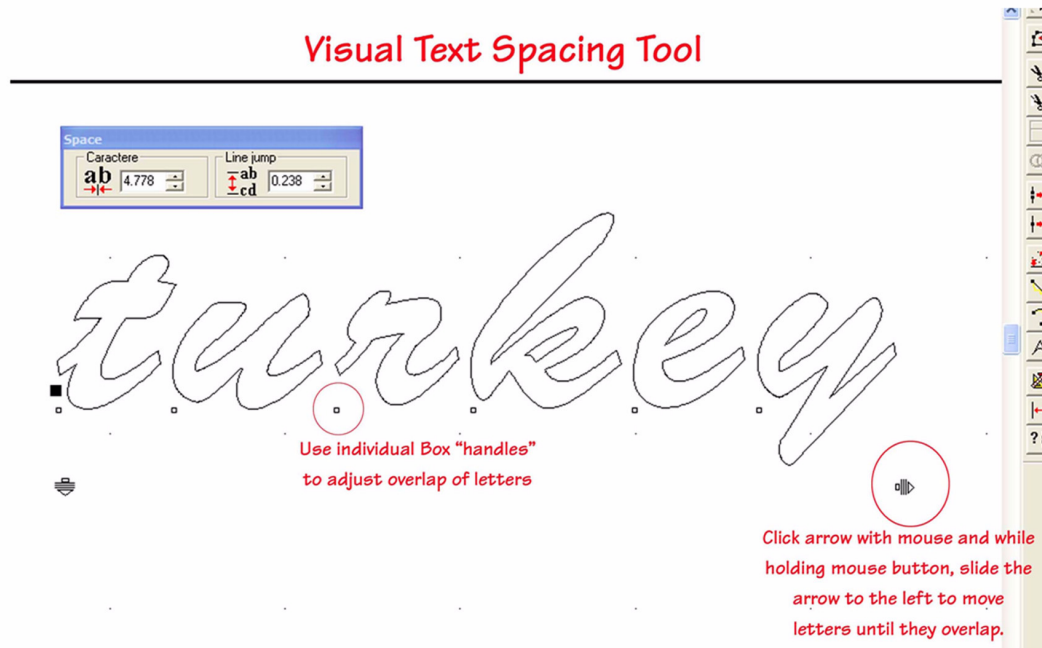

Figure 137
- 2 On the **Text** menu, click **Visual Text Spacing**. Visual Text Spacing places a little box under each letter and an arrow pointing to the right under the word. See figure 137.